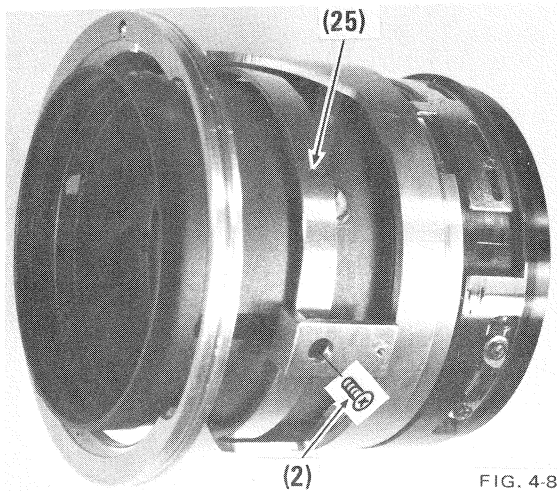

FIG. 4-8
- a) Remove flat head screws (2) that attach bridge ring (25) to the inner helicoid assembly. Fig. 4-8.